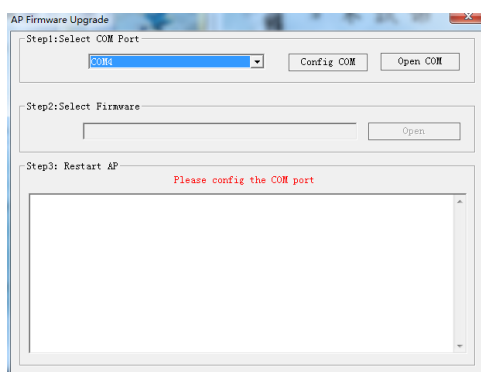

Figure 66
4. Click “Upgrade” and the window “AP Firmware upgrade” will pop up, as shown in Figure 66.